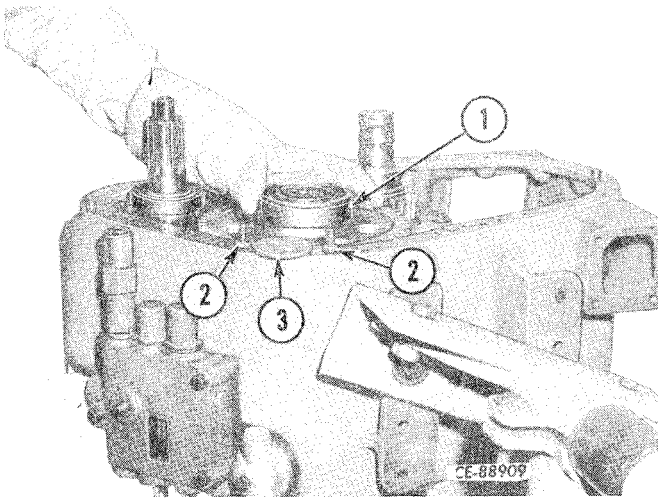

Figure 4-73
Heat the countershaft cover bearing (1, Fig. 4-73) in an oven or hot oil to approximately 250°F. Install the bearing on the countershaft with the snap ring groove up. Install the end plate (3) and cap screws (2). Tighten cap screws to recommended torque (refer to "SPECIAL TORQUES").